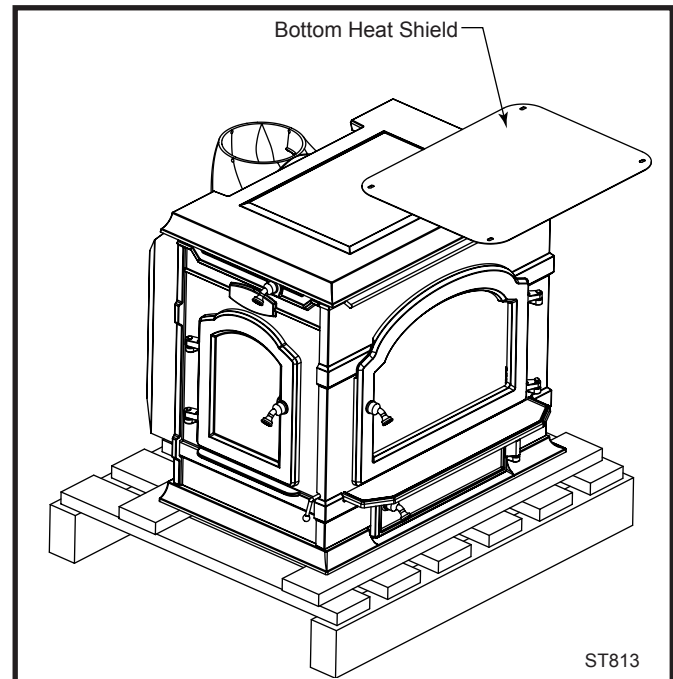

Fig. 24 Remove bands holding stove to pallet and remove heat shield from top of stove.
1. Remove the band that holds the stove to the pallet and remove the bottom heat shield that was positioned on top of the stove. (Fig. 24)